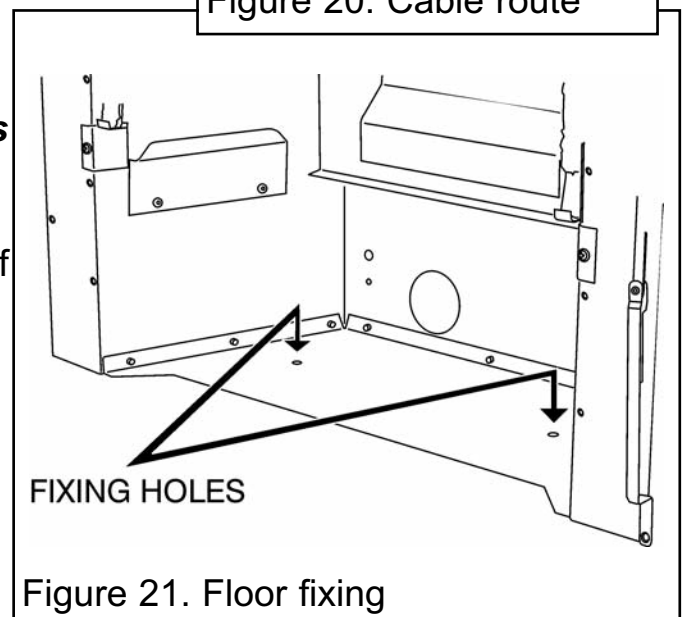

Figure 21. Floor fixing
8. Drill a hole into the fireplace floor through each of the two holes in the base of the convection box using a suitably sized masonry drill for the fibre plugs supplied (See figure 21).